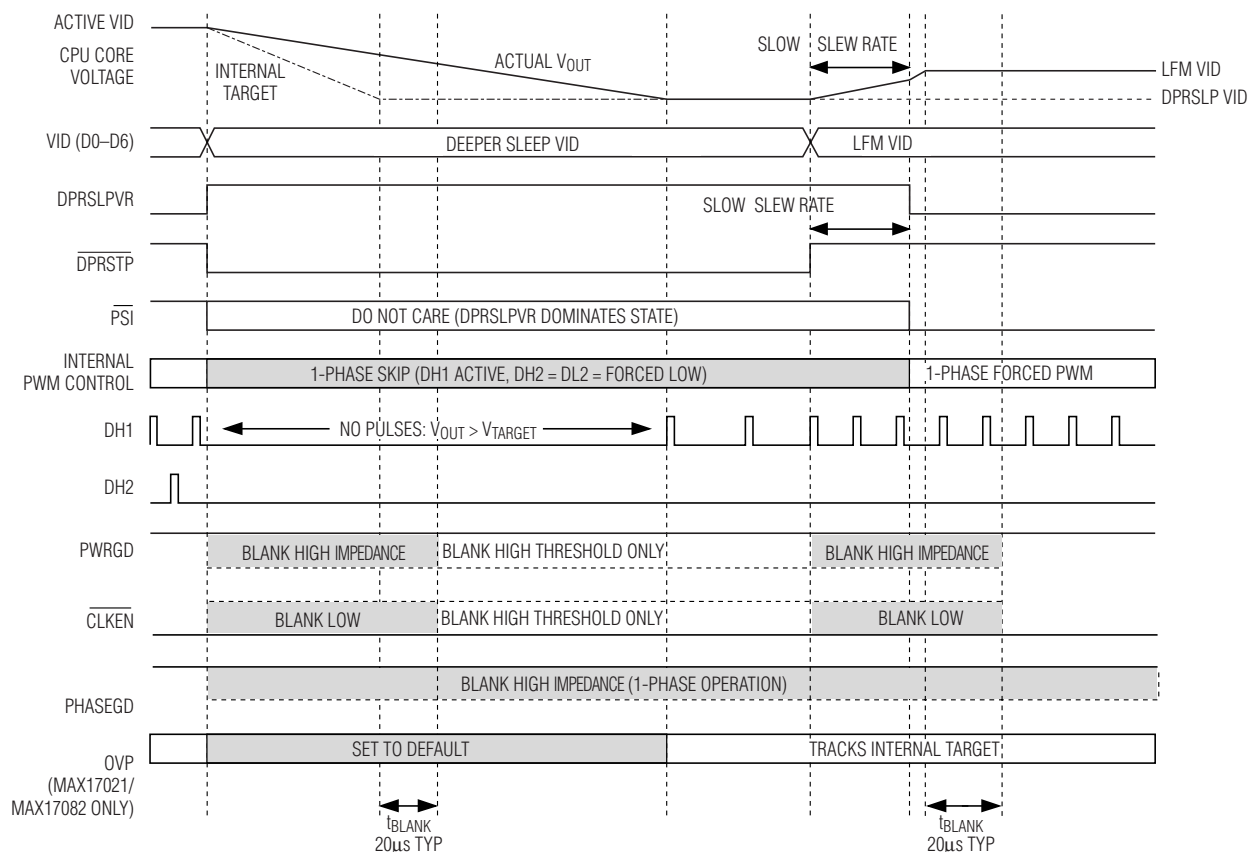

Figure 7. Slow C4 Transition
- IMVP-6+ Slow C4 Deeper Sleep Exit:** When exiting deeper sleep (DPRSLPVR high,  $\overline{DPRSTP}$  pulled high) while the output voltage is regulating to the deeper sleep voltage, the MAX17021 remains in 1-phase skip mode and ramps the output voltage to the LFM DAC code provided by the processor at 1/4 the slew rate set by  $R_{TIME}$ . The controller blanks PWRGD, PHASEGD, and CLKEN until 20 $\mu$ s after the transition is completed. See Figure 7.